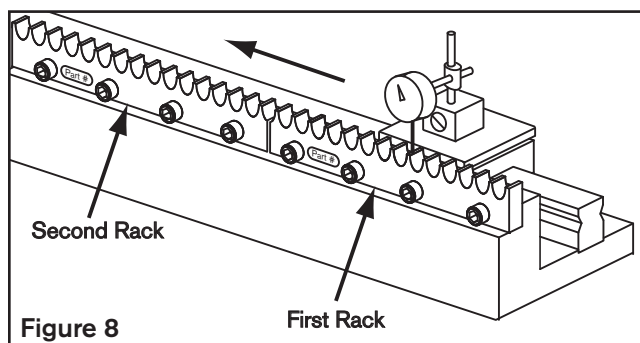

Figure 8
6. Once the rack mounting screws are fully tightened, verify tooth peak variance is less than ± 0.03 mm [± 0.001 in] by placing a dial indicator on the movable carriage with the indicator tip on the tooth peaks. Measure the tooth peak variance at points throughout the rack section as shown in Figure 8.